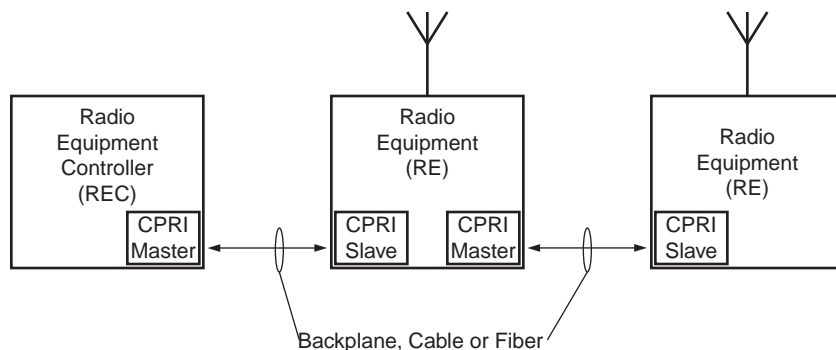

Figure 2: Location of CPRI in a Cellular System
CPRI is an emerging standard for communication between a Radio Equipment Controller (REC) or Base Station and one or more Radio Equipment (RE) units in a 3G cellular network. The concept is to foster an independent technology evolution for cellular equipment products by defining a publicly available specification for the key internal interface between these units. Figure 2 shows the position of the interface in a cellular system.